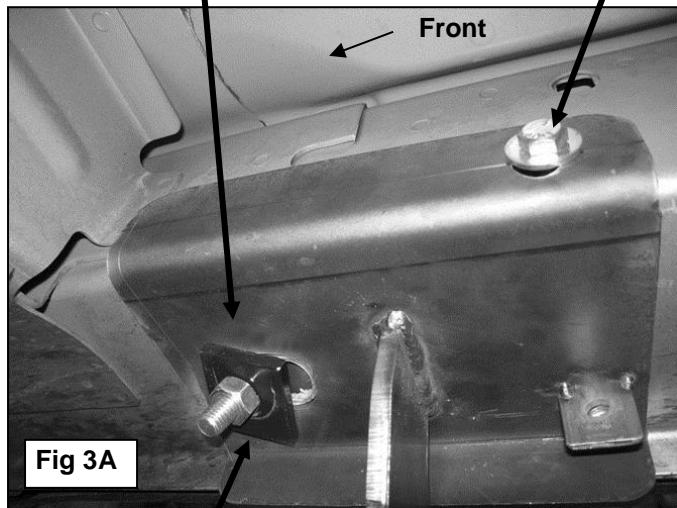

Fig 3A
- a. **On 07-09 Vehicles:** Use (1) 12mm Square Washer, (1) 12mm Lock Washer and (1) 12mm Hex Nut to secure the Bracket to the Bolt Plate, (**Figure 3A**). Do not tighten hardware at this time.